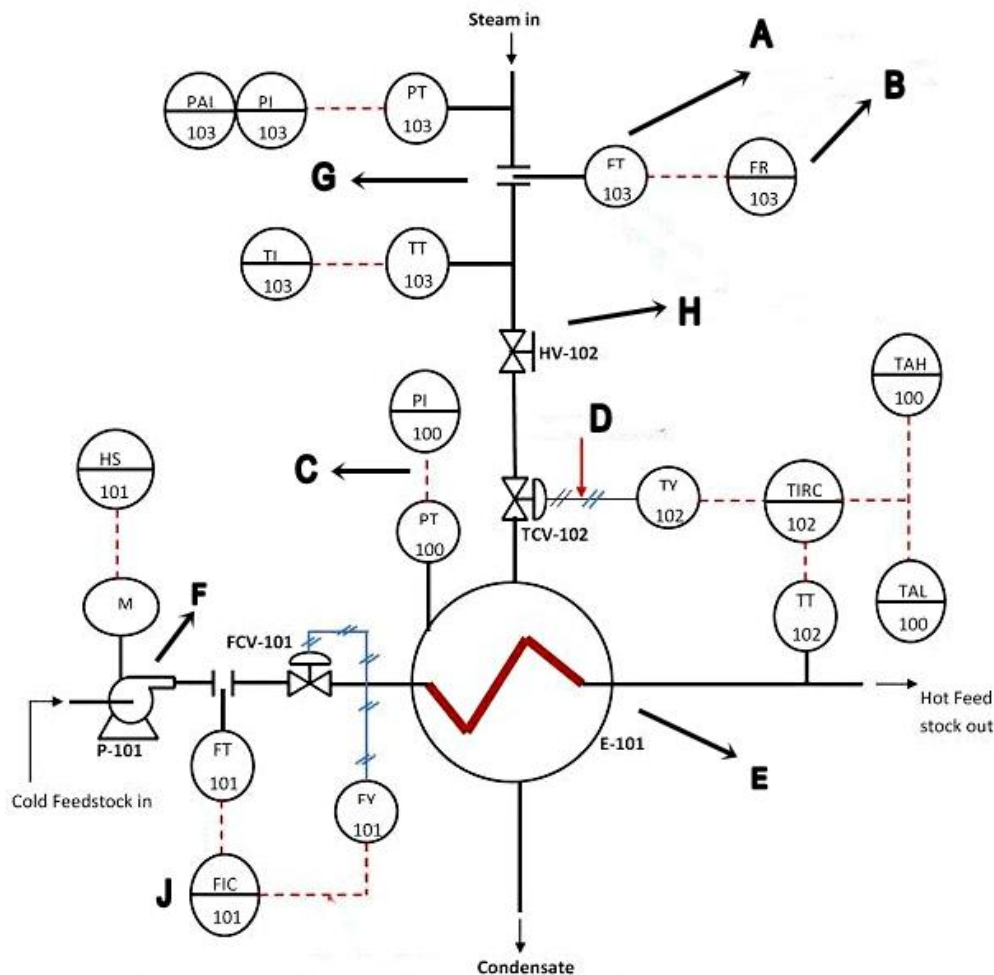

Figure 5: P&ID drawing of a system
- (a) **Figure 5** is a P&ID of a system. Answer the following questions based on this figure.